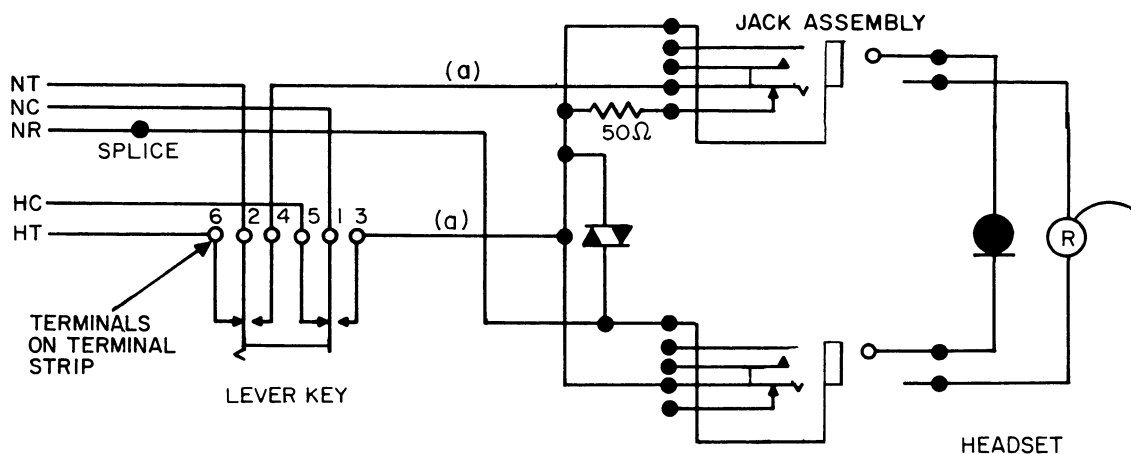

Figure 5. Key-Switched Auxiliary Headset for Dial Telephone Sets Schematic Drawing.
- (1) Install the associated dial telephone set according to the appropriate section in this division of General System Practices.
- (2) Determine the desired locations for the jack box and lever key.
- (3) Remove the cover from the lever key.
- (4) Using mounting hardware appropriate for the type of surface, mount the lever key.
- (5) Using station wire, attach the two (a) leads of Figure 5 to terminals 3 and 4 of the lever key. Leave these leads long enough to reach the jack terminals with the jack box mounted in its desired location.
- (6) Using 10-conductor, 26 AWG. stranded cordage, attach leads to the remaining terminals of the lever key, and the NR lead to the jack as shown in Figure 5. Leave the cordage long enough to reach to the associated telephone set when it is in its normal location. Leave some slack to facilitate moving the telephone about its area of location.
- (7) Remove the telephone set housing.
- (8) Terminate the free ends of the cordage leads in pressure-crimped spade lugs, and connect them to the associated telephone set according to Figure 5 and Table 1 (as appropriate).
(9) Assemble the jack box kit as follows:
- (b) Connect leads (a), (a), from the lever key assembly as shown in Figure 5.
- (c) Install the varistor and 50Ω, 5 W resistor on the jack terminals as shown in Figure 5.